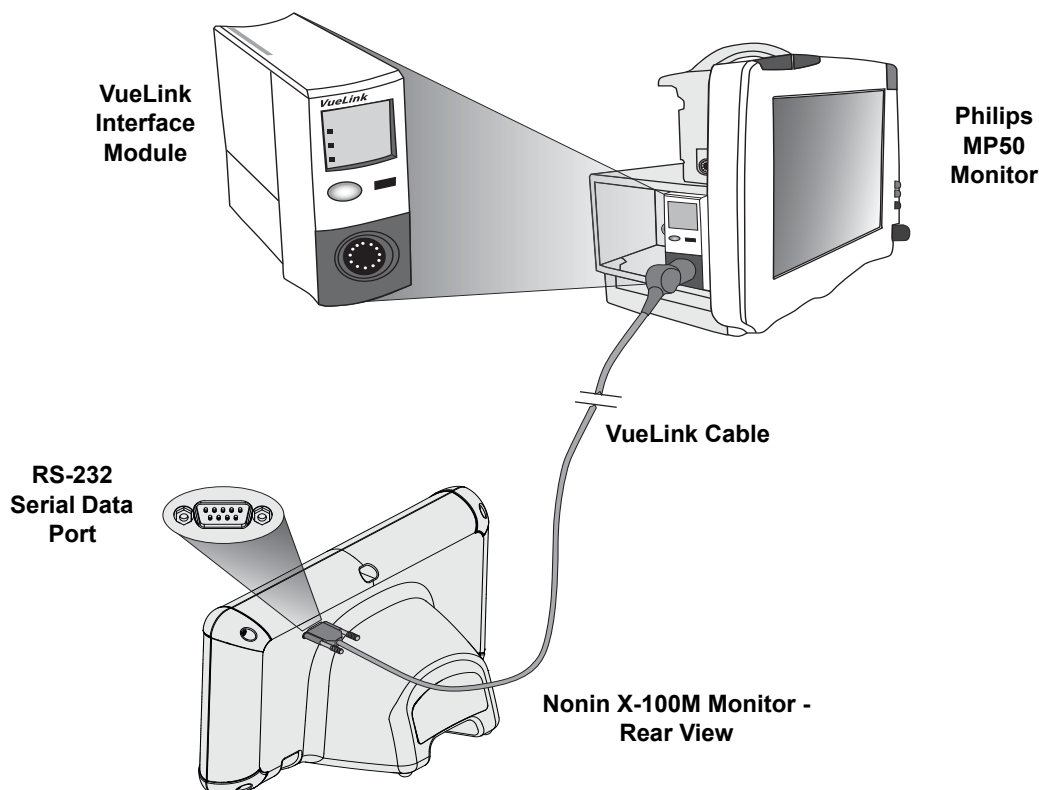

Figure 32. X-100M Connection to Philips Monitor with VueLink
The Model X-100 SenSmart universal oximetry system communicates with the Philips Patient Monitoring System using an Interface Module and a cable (figures 32 and 34). See the appropriate "Setting up the Connection" section for detailed steps.
3. Connect the VueLink connection cable to the VueLink Interface Module (see figure 32).